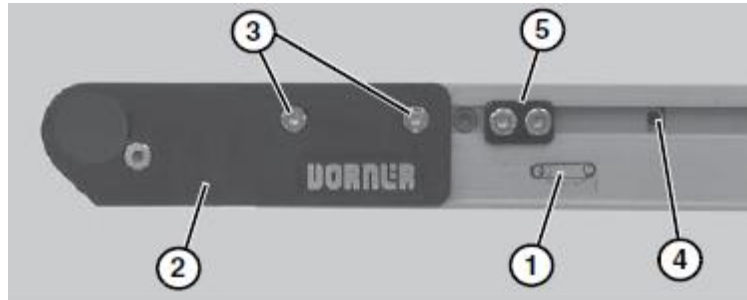

Figure 3-1
- On tension end of the conveyor, identified with a label (Figure 3-1, item 1), adjust head plate assembly (Figure 3-1, item 2): On both sides of conveyor, loosen fastening screws (Figure 3-1, item 3) and rotate pinion gear (Figure 3-1, item 4) to adjust head plate assembly.
- After adjusting proper tensioning, tighten fastening screws (Figure 3-1, item 3) on both sides of conveyor to 60 in-lb. (7 Nm).
- If equipped with cam tracking assemblies (Figure 3-1, item 5), position against head plates and adjust belt tracking. Refer to “Tracking and Side-Rail Alignment”.